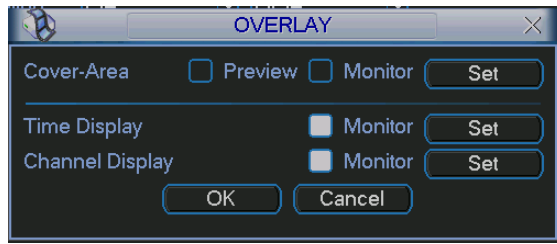

Figure 6-23
- Overlay: Click overlay button, you can see an interface is shown in Figure 6-23.